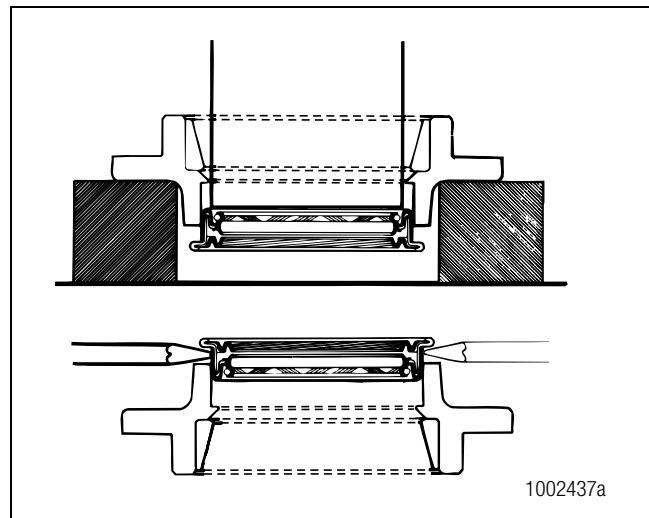

Figure 3.26
- **If a press is not available:** Place a tool with a flat blade under the flange to remove the oil seal from the cage. Figure 3.26.